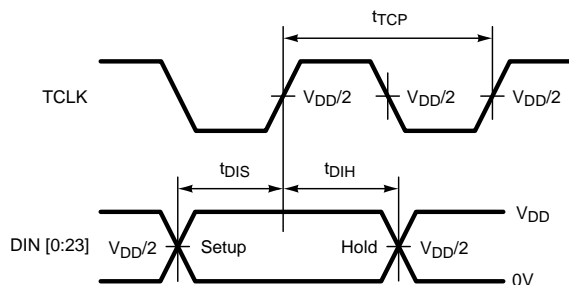

Figure 5. Serializer Setup/Hold Times
(2) Figure 5 and Figure 15 show a rising edge data strobe (TCLK IN/RCLK OUT).
(3) t_{JIT} (@BER of 10e-9) specifies the allowable jitter on TCLK. t_{JIT} not included in TxOUT_E_O parameter.